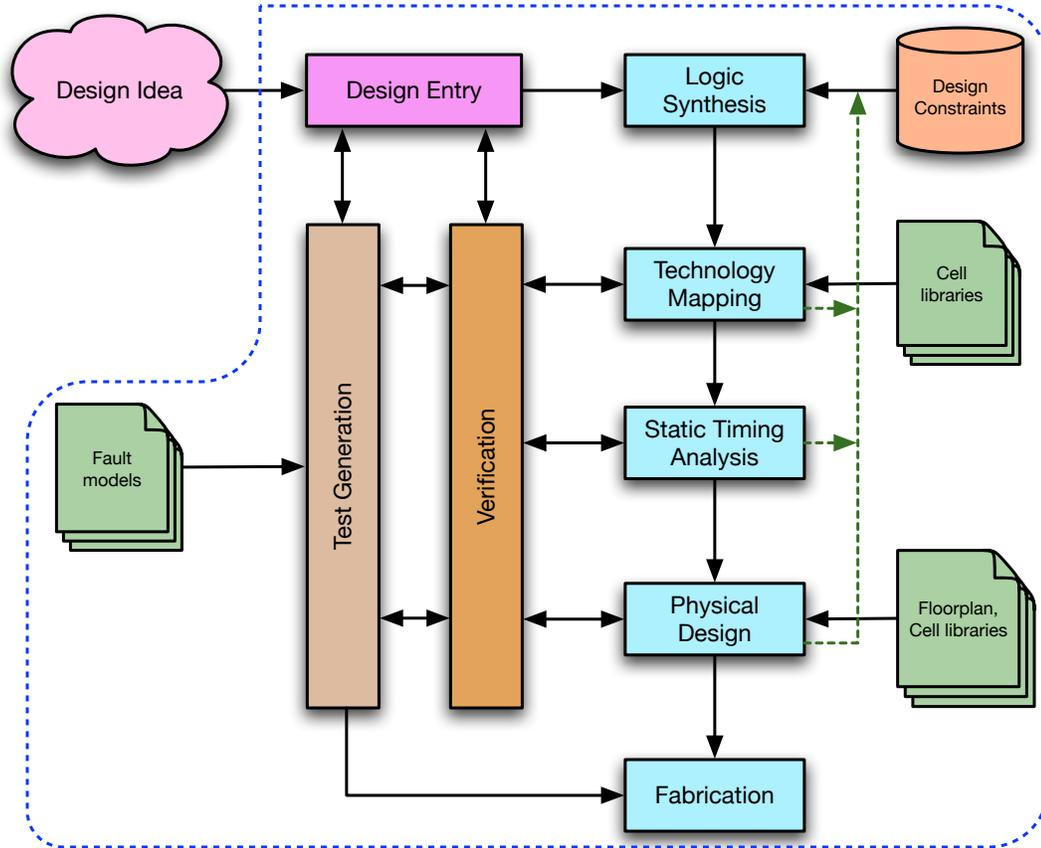

Figure 1: A typical VLSI CAD flow.
Fig. 1 shows the main components that comprise a typical computer-aided design (CAD) flow for designing VLSI systems. Broadly speaking, there are two types of design styles: *fully-custom* and *cell-based*. In fully-custom design, the designer spends a lot of effort designing individual transistors to extract the maximum available performance. The design cycle is very long and hence, this style is mainly used for microprocessors. In cell-based design (*e.g.*, cell phones, PlayStation, *etc*), the designer opts to use a cell library for circuit layout. In this case, the time-to-market (design cycle) is shorter but performance is sacrificed. Of course, one can mix the two design styles.
**Verification:** As can be seen in Fig. 1, verification is done at all phases to find errors in a design. Different methods are used depending upon the level at which verification is being done. In the initial stages, the goal is usually to detect logical errors in the design. As the design matures, the goal shifts towards detecting timing violations. Performing verification early in the design process is relatively much easier and cheaper than doing it during the later stages.